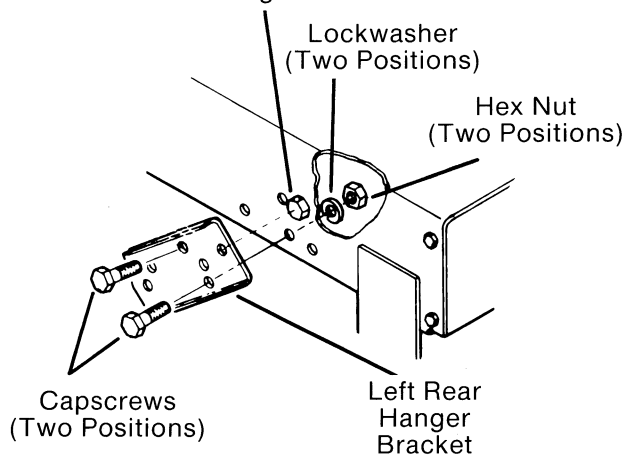

FIG. 13
- A. Attach left rear hanger bracket to left rear side of tractor frame. Remove factory assembled hardware, shown in (Fig. 13), and use to attach top hole in left hanger bracket. Secure each of the two other mounting holes with hardware shown in (Fig. 13).